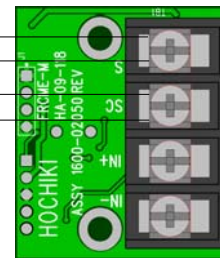
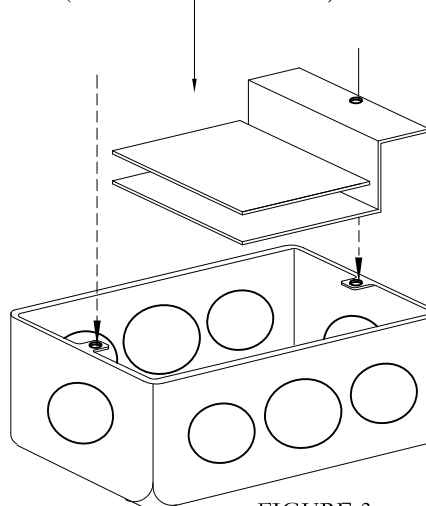

FIGURE 2A
FIGURE 3
The FWC-FSLC-EZM1B mounting option is shown in Fig 3. All the modules will follow Fig. 2A, 2B & 2C for wiring connections.
- 1) Install module wiring in accordance with the job drawings and appropriate wiring diagram (see Fig. 2A, 2B & 2C).
- 2) Secure the module to a U.L. listed electrical box (supplied by installer) as shown in Fig. 3